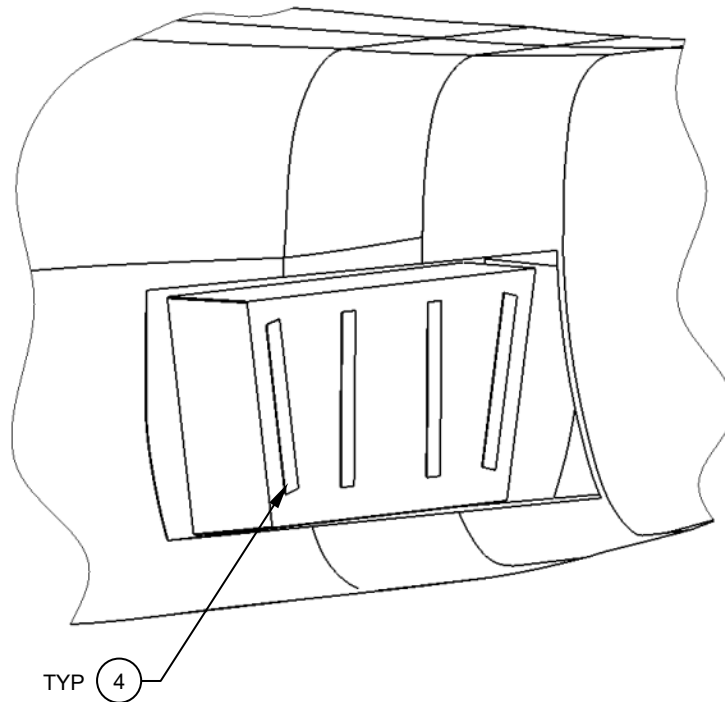

Figure 3
6. Using the felt pen marks as reference points, apply the Velcro, Detail (Item 4) to the honeycomb panel in their respective locations. Reference Figure 3. Apply adequate pressure to ensure a secure bond.